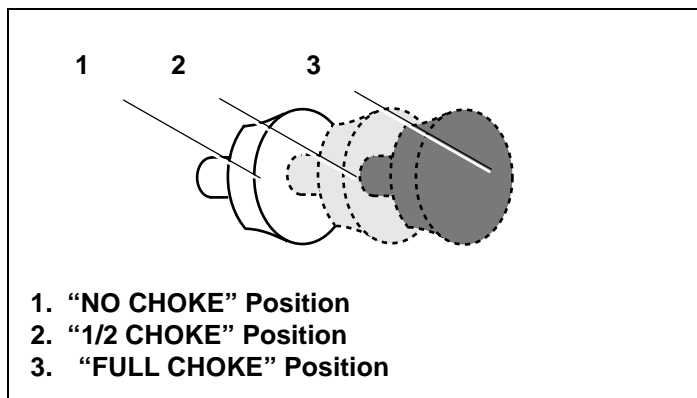

Figure 23. Remote Choke Control Positions
*Some engines are equipped with a remote choke control. See Figure 23.*